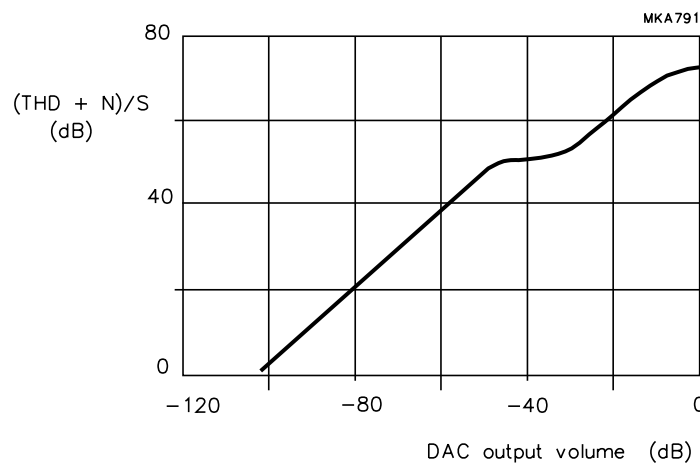

Fig.4 Total harmonic distortion plus noise-to-signal ratio as a function of output volume.
The word select input (pin 26) is connected to the word select line of the I2S-bus interface. This interface has a standard I2S-bus specification as described in the Philips "*I2S-bus specification*" (ordering number 9398 332 10011). Figure 4 shows an excerpt of the Philips I2S-bus specification interface report with respect to the general timing and format of the I2S-bus. WS logic 0 means left channel word, logic 1 means right channel word.
- MCLK (see Fig.4), which is a jitter free (maximum 30 ns jitter) external clock at any multiple integer from 45 to 128 times  $4f_{as}$  (4 times the frequency of WS) of the I2S-bus input, thus for a sample frequency of 38 kHz this clock frequency will range from 6.840 MHz to 19.456 MHz in multiples of 152 kHz.